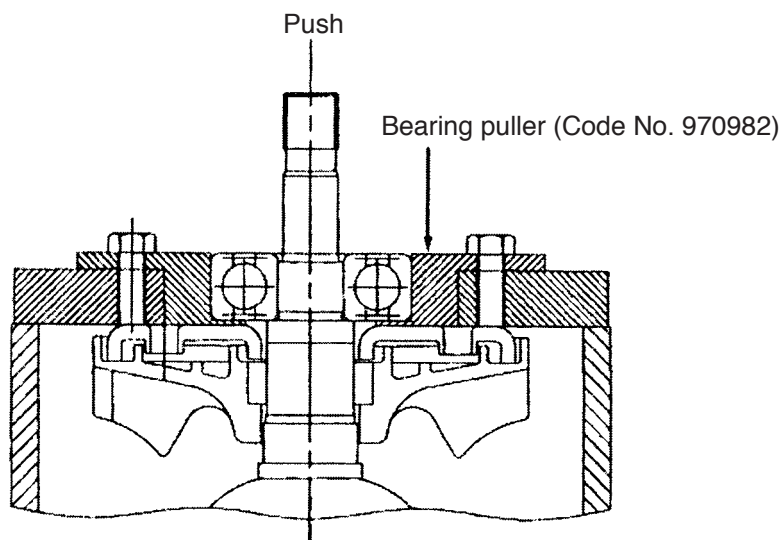

Fig. 11
6. After removing the two Seal Lock Hex. Socket Hd. Bolts M5 x 14 **[1] <1>**, the Armature **[12] <12>** can be extracted together with Bearing Cover (A) **[11] <11>** and the related parts.
8. For the models indicated in Fig. 11, the Ball Bearing 6301DDCMPS2L **[9] <9>** can be removed from the Armature **[12] <12>** by utilizing a J-204 bearing puller (special repair tool, Code No. 970982) as illustrated below. After the ball bearing has been removed, Bearing Cover (A) **[11] <11>** can be easily taken off.